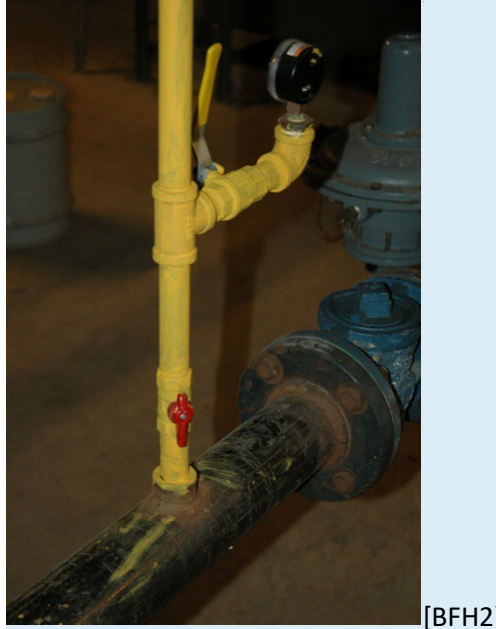

Figure 2: combustion calorimeter connection to natural gas supply line; Red valve shown in “ON” position
- a)** Turn the red valve to the “ON” position where the gas sampling line meets the building main supply (Figure 2).